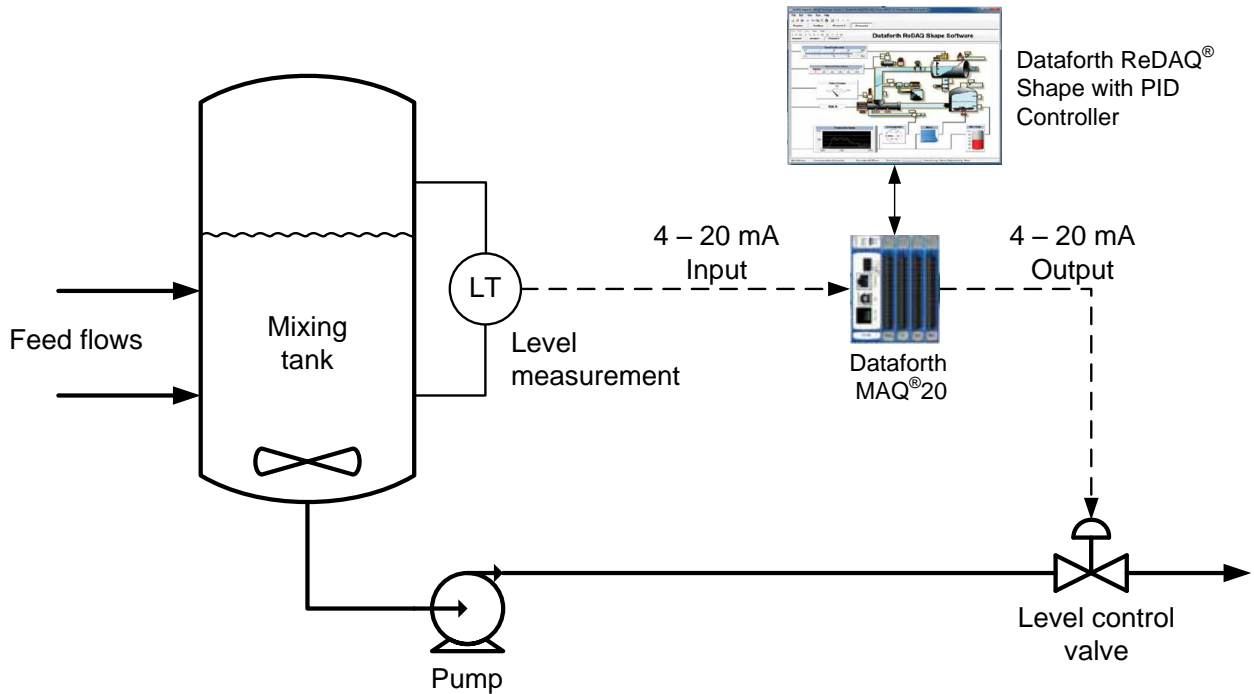

Figure 1: Level Control with MAQ²⁰
- Tank level control (Figure 1)